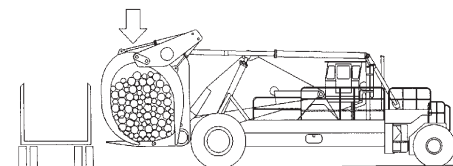

Figure 5-9
6. With the load clear of the vehicle, back away and lower the load about 3 feet above the ground of just high enough to clear any obstructions on your way to the point of unloading (See Figure 5-9).